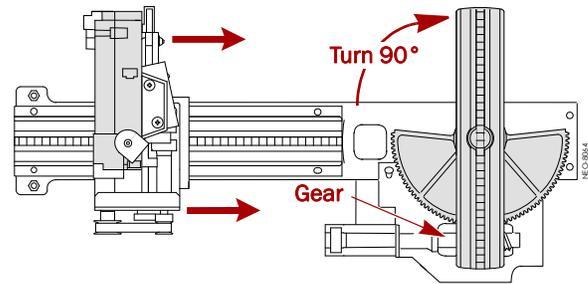

Figure 6. Shuttle and Track Assembly
1. Using the track gear, turn the **rear** section of the track 90° to the side (Figure 6).